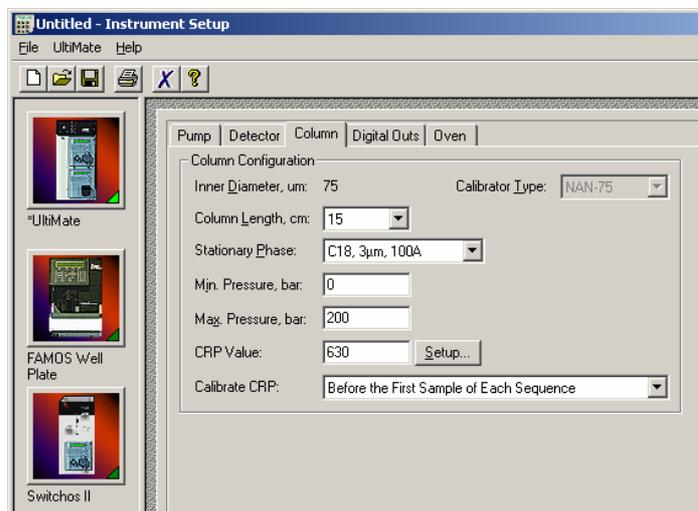

FIGURE 2-29 The Column Parameters Setup Window
- a) Choose the **Column** tab in the **Instrument Setup** window to display the column setup window (FIGURE 2-29).